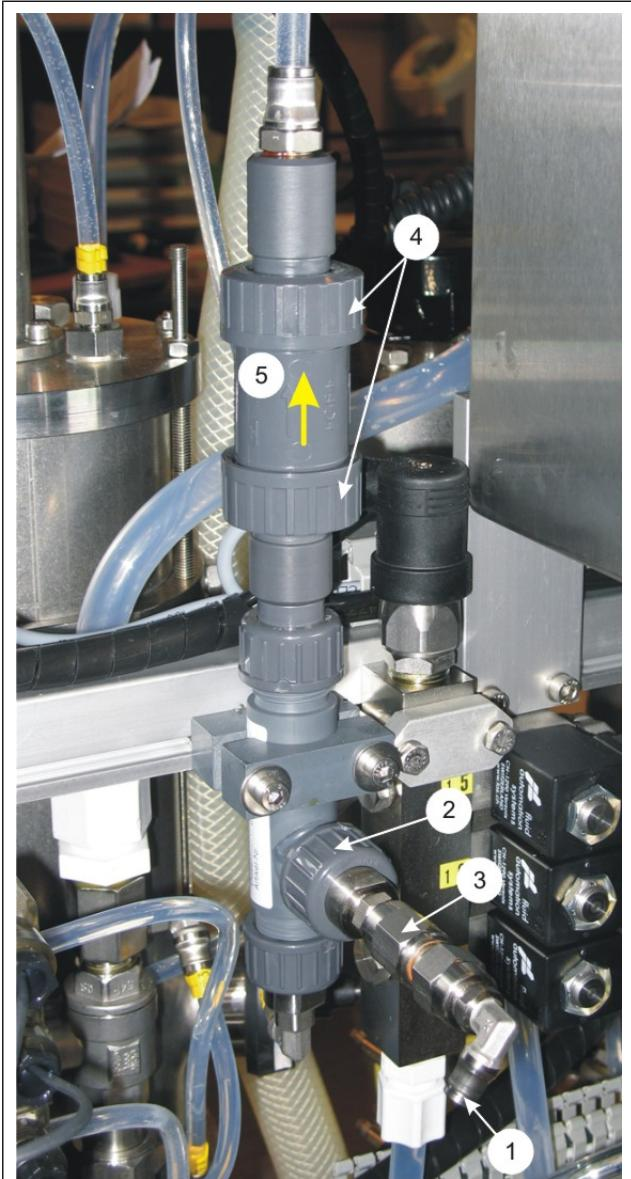

Fig. 6. Replacing check valves of chemical ejector.
2. Detach the chemical tube from its connector (Fig. 6, part 1).
1. Open the ejector nuts (Fig. 6, part 4).